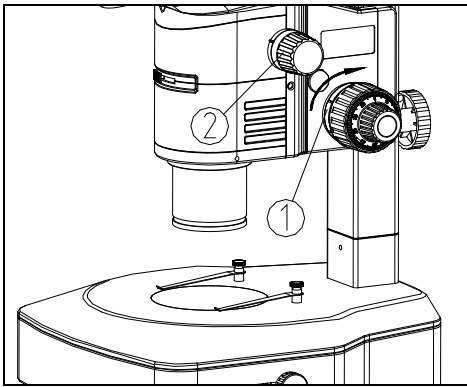

Fig.15
1. If the handle is very heavy when coarse focusing, or the specimen leaves the focus plane soon after focusing, or the stage declines itself, these problems can be solved by adjusting the tension adjustment ring. (See Fig.15)
1. Rotate the zoom knob to the maximum magnification. (See Fig. 15)